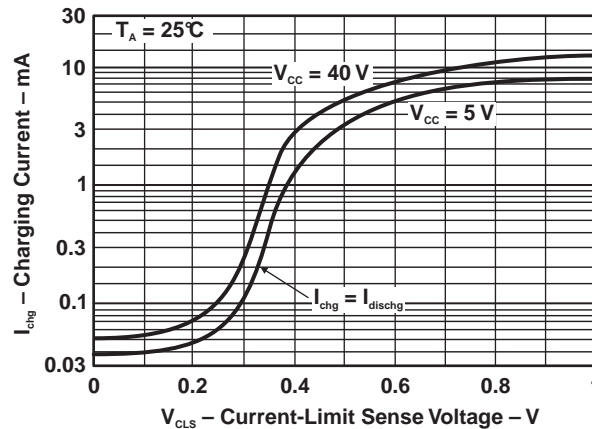

Figure 7. Timing Capacitor Charge Current vs Current-Limit Sense Voltage
Current limit is accomplished by monitoring the voltage drop across an external sense resistor located in series with VCC and the output switch. The voltage drop developed across the sense resistor is monitored by the current-sense pin, I_{pk}. When the voltage drop across the sense resistor becomes greater than the preset value of 330 mV, the current-limit circuitry provides an additional current path to charge the timing capacitor (CT) rapidly, to reach the upper oscillator threshold and, thus, limiting the amount of energy stored in the inductor. The minimum sense resistor is 0.2 W. Figure 7 shows the timing capacitor charge current versus current-limit sense voltage. To set the peak current, I_{pk} = 330 mV/R_{sense}.